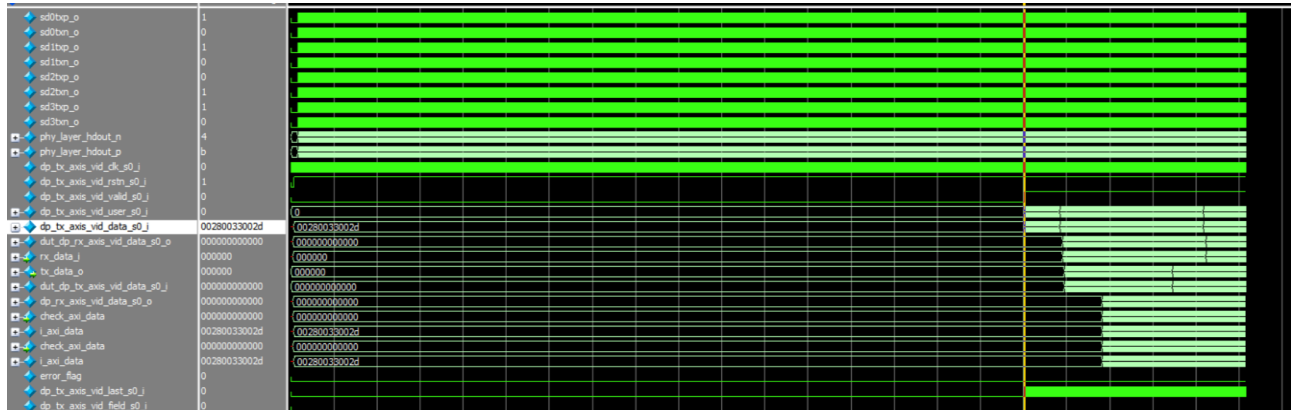

Figure 5.15. Sample Simulation Waveform
5. The Simulation is opened as shown in Figure 5.15.